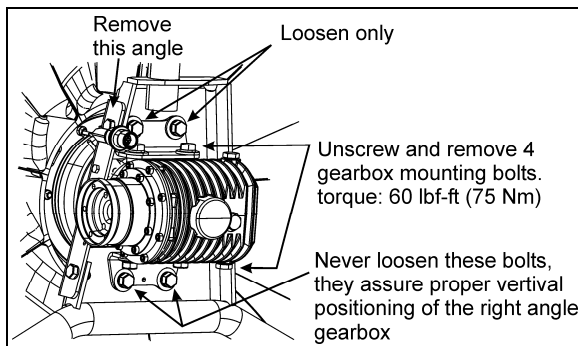

FIGURE 34: RIGHT ANGLE GEARBOX MOUNTING 05126
5. Dismount the angle (see fig. 34).